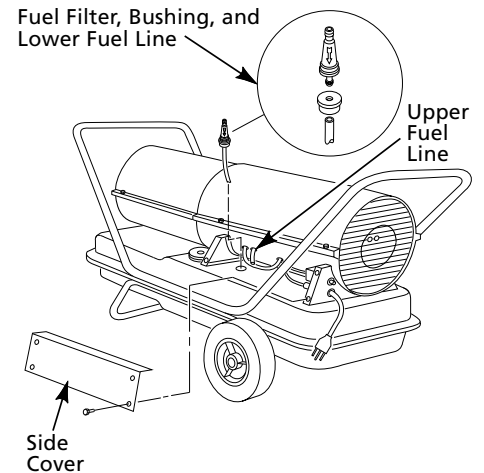

Figure 15 - Fuel Filter Removal, Models 3E218E and 3E219E
4. Carefully pry bushing, fuel filter, and lower fuel line (Models 3E218E and 3E219E only) out of fuel tank (See Figure 15).